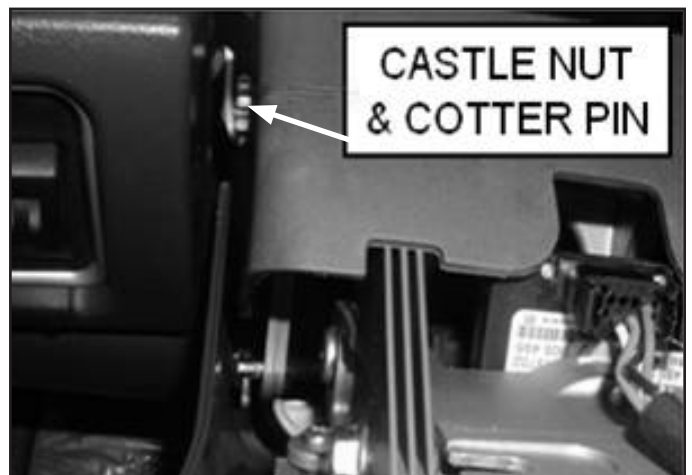

Figure 2
2. Locate the castle/slotted nut and cotter pin. See Figure 2. Remove the cotter pin. The legs of the cotter pin will have to be straightened to allow removal.